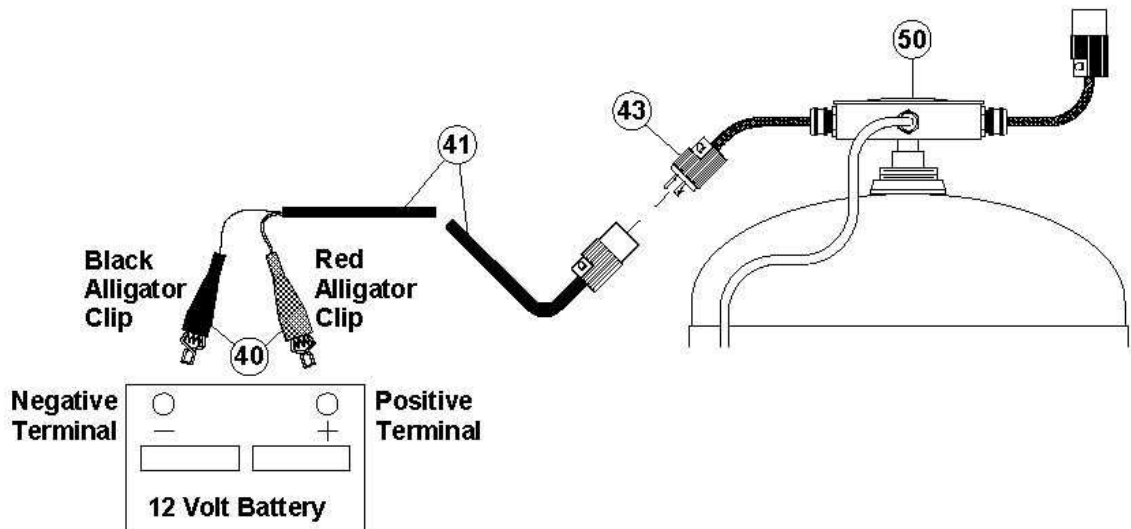

Figure 6.1 – Electric power connection
- 6.1.17. Connect the electric power cord alligator clips (#40) to the air compressor battery terminals or to another 12Vdc power source. See Figure 6.1.